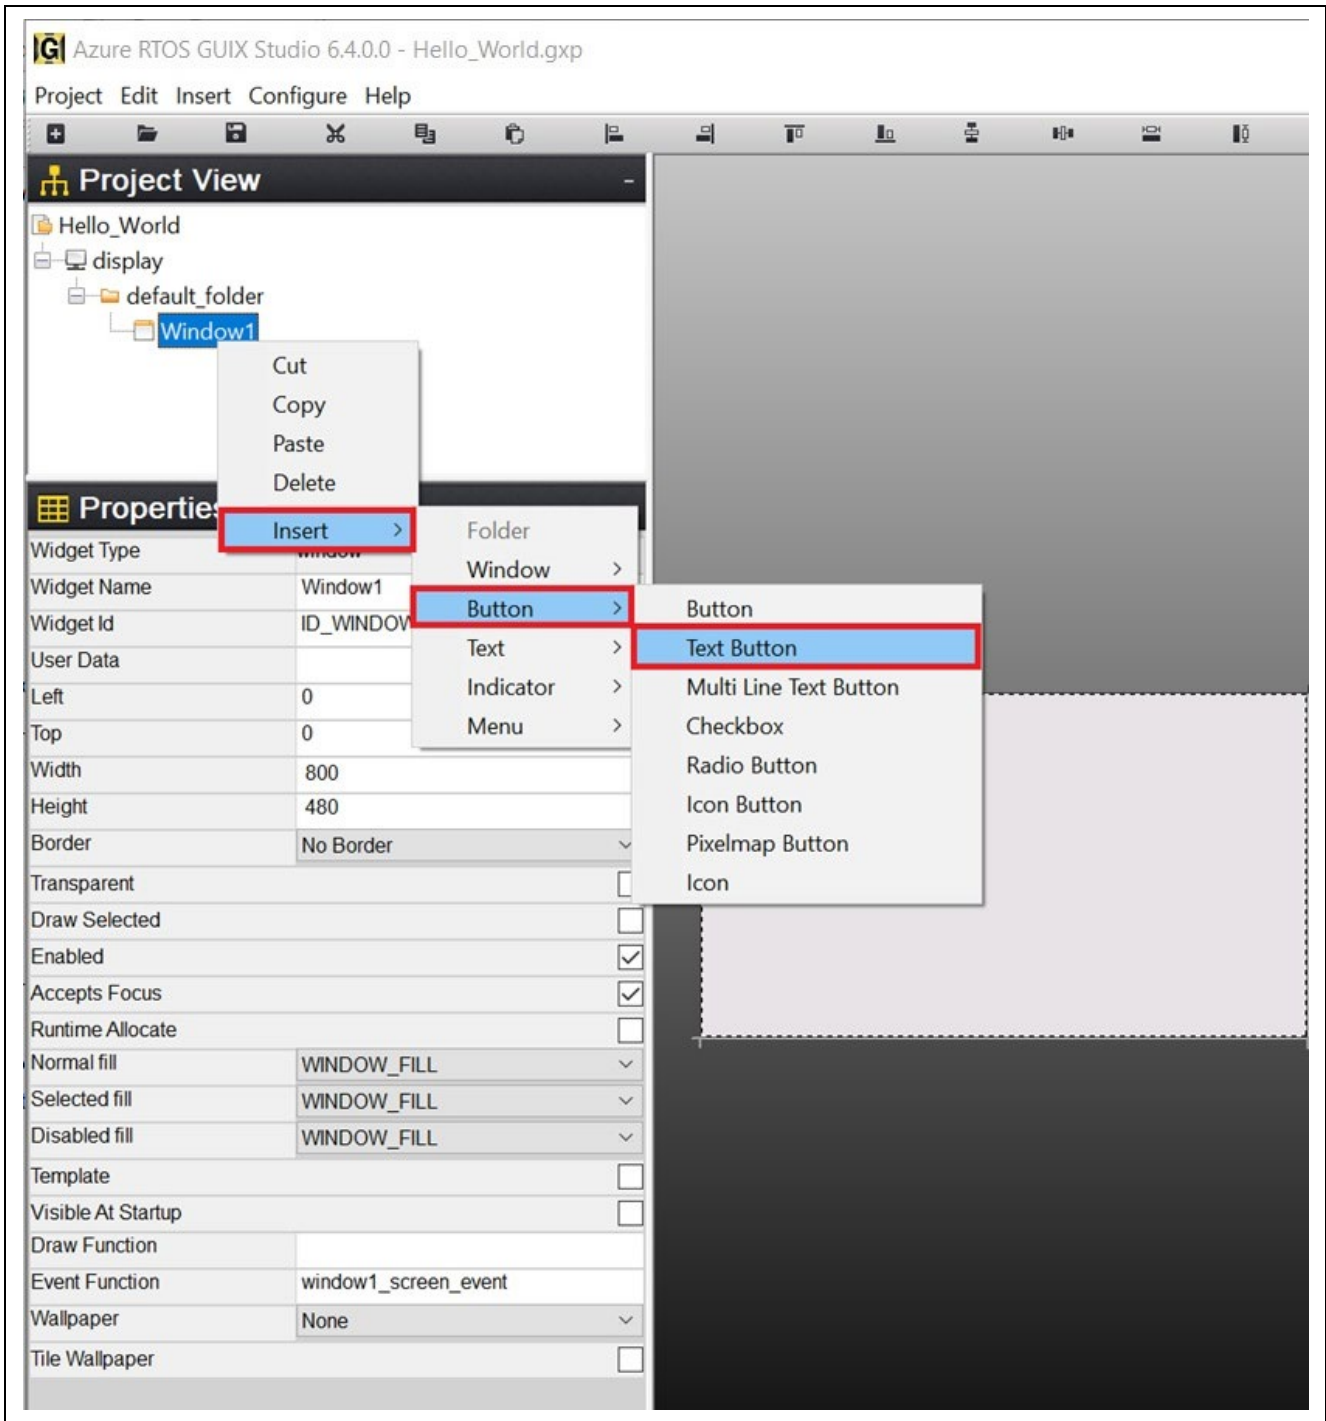

Figure 48. Insert Text Button
11. Right-click on **Window1** to insert a **Text Button** and follow **Figure 48**.